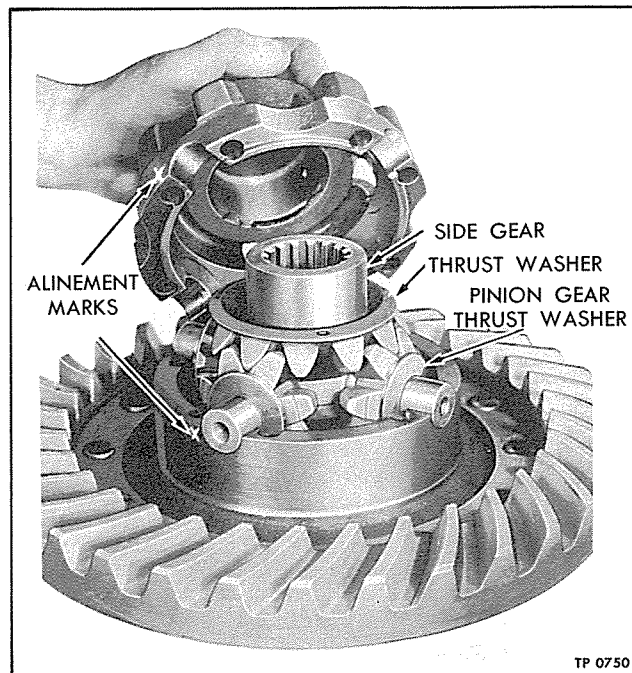

Figure 2—Typical Differential Case Showing Alignment Marks
1. Mark both halves of case so halves may be reassembled in original positions (fig. 2).